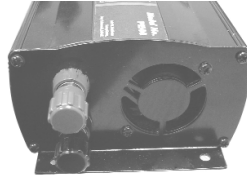

Fig. 1
- 3.2.1 To attach the battery clips (PI300 or PI500), or the cigarette plug (PI300 only) remove the terminal caps from the rear of the inverter (Fig.1).